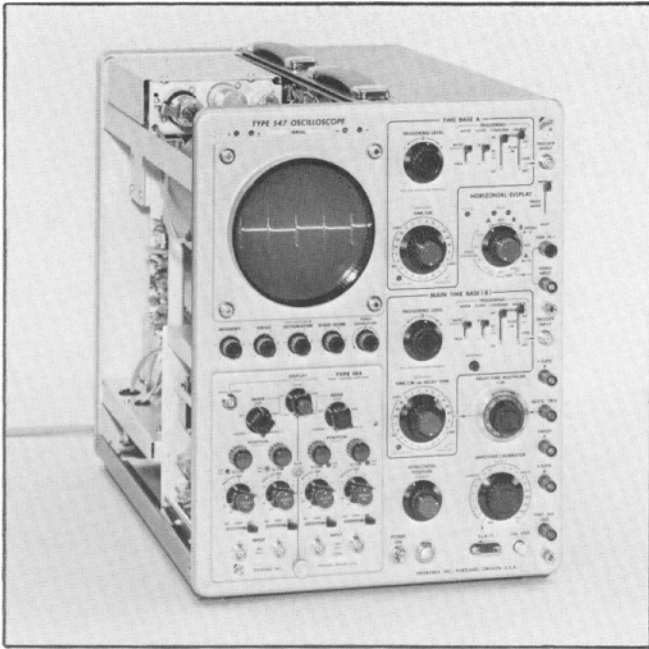

Fig. 7-31. Equipment setup for steps 25 and 26.
- a. Equipment setup is shown in Fig. 7-31.
a. Equipment required for this setup is the same as shown in Fig. 7-31.